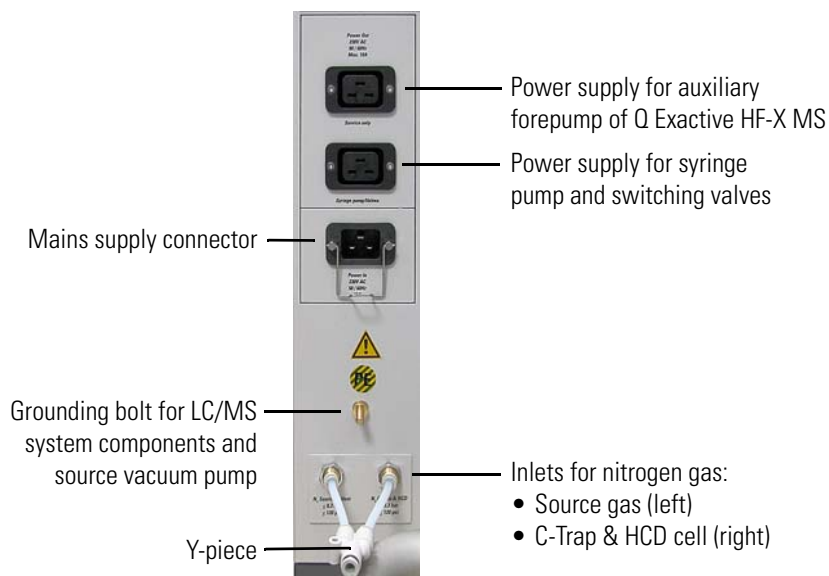

Figure 5-6. Power and gas connections of Exactive Series MS
The components of the data system (computer, monitor, and Ethernet switch) and the devices of the LC system require wall outlets at a nominal voltage of 230 V AC or 120 V AC, 50/60 Hz. Electric power for syringe pump, switch valve, and auxiliary forepump is supplied by the MS. See Figure 5-6.
Exactive Series mass spectrometers require high-purity (99%) nitrogen. The nitrogen inlet ports are at the bottom of the power column at the rear side of the instrument. See Figure 5-6 on page 5-9.
2. Insert the opposite end of the Teflon tubing into the press-in fitting of the Y-piece that is attached to the gas ports at the rear side of the instrument. See Figure 5-6. To connect the tubing, align the Teflon tubing with the opening in the fitting and firmly push the tubing into the fitting until the tubing is secure.